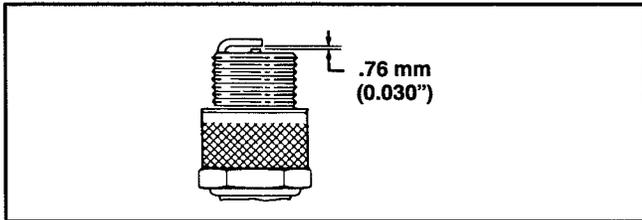

Figure 19
3. Set air gap at 0.76 mm (0.030") (Fig. 19). Install correctly gapped spark plug and gasket seal. Tighten plug firmly to 19 N·m (14 ft–lb).